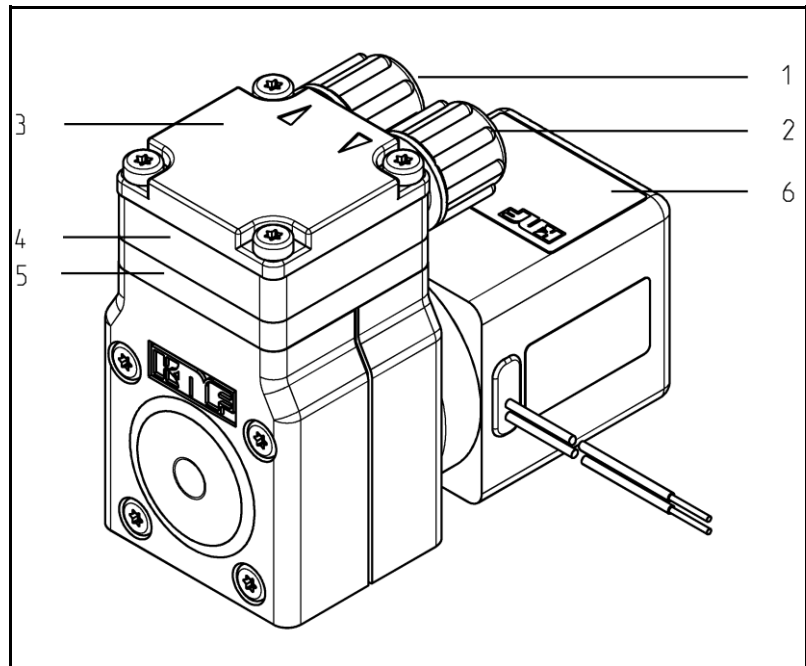

Fig. 1: Diaphragm liquid pump NF 1.60
* Pump head (Fig. 1) comprises an intermediate plate and a connecting plate